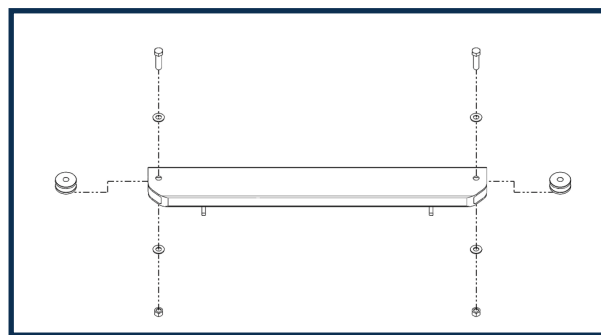

FIGURE 5
- Insert pulley wheels (2) into lower bracket. One into each end.
- Insert and attach using hardware provided in Kit #3. **Do not over torque**. Pulley must rotate freely. See Figure 5.